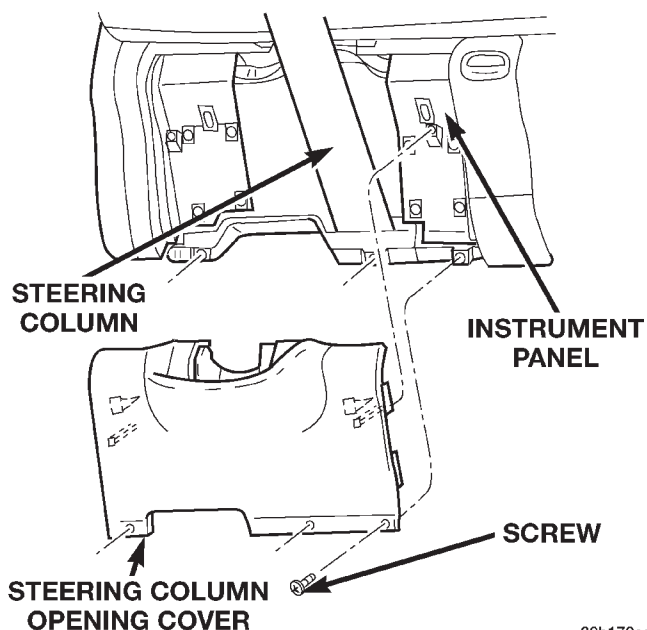

Fig. 13 Steering Column Opening Cover and Knee Blocker Remove/Install
(2) Remove the three screws that secure the bottom of the steering column opening cover and knee blocker to the lower instrument panel reinforcement (Fig. 13).